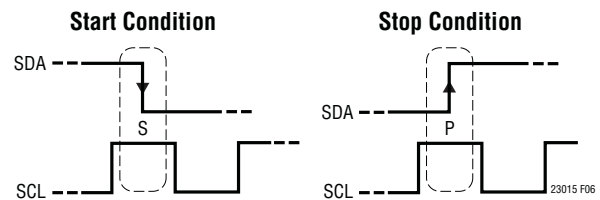

Figure 6. Timing Diagrams of Start and Stop Conditions
Referring to Figure 6, a Start (S) condition is generated by transitioning SDA from high to low while SCL is high. The bus is considered to be busy after the Start condition. When the data transfer is finished, a Stop (P) condition is generated by transitioning SDA from low to high while SCL is high. The bus is free after a Stop condition is generated. Start and Stop conditions are always generated by the master.